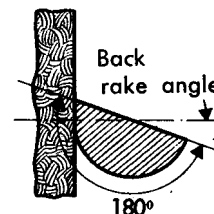

Fig. 3a
8. When grinding the back rake angle, use the fine adjustment screw F over the entire range of rotation of the index head spindle (see Fig. 3a). Grinding of the back rake angle is positively controlled. The angle is required to extend over the entire length of the cutting lip.